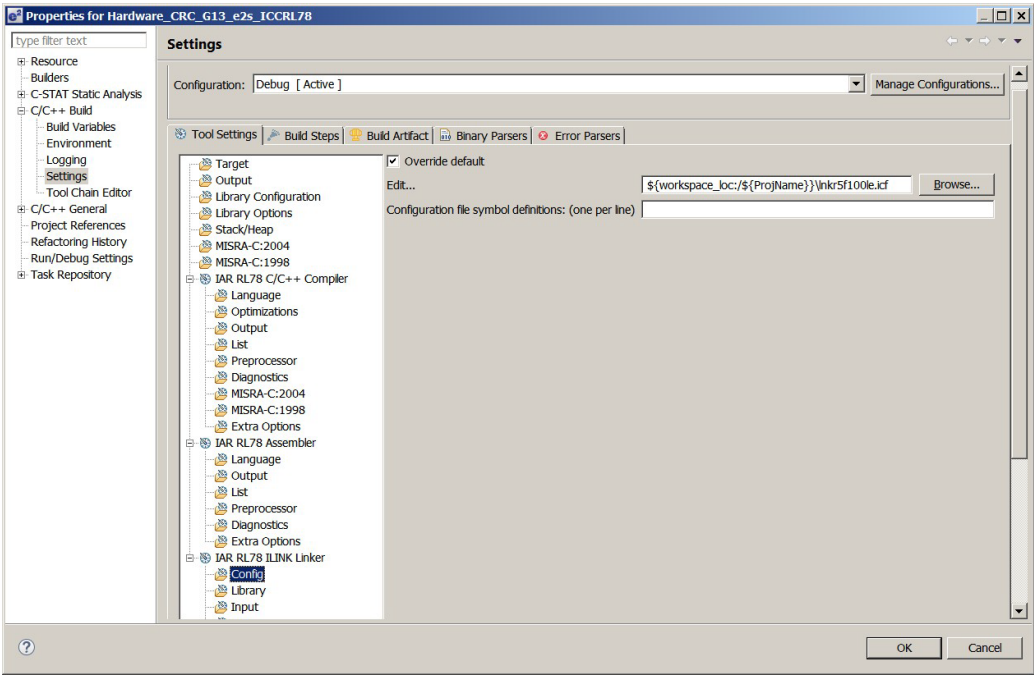

Figure 6: Linker Config Options in e2studio/IAR settings
- Override the default .icf (Linker) file in e2studio Project >> Properties >> Settings >> IAR RL78 ILINK Linker >> Config (See Figure 6.)
`${workspace_loc}/${ProjName}}\lnkr5f100le.icf` (See Figure 6.)